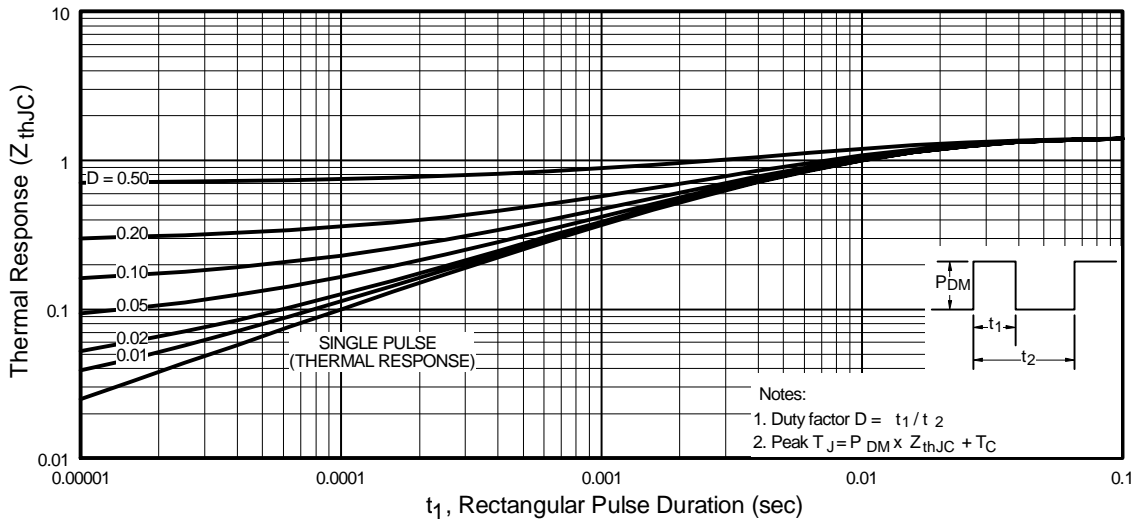

Fig 11. Maximum Effective Transient Thermal Impedance, Junction-to-Case
- ① Repetitive rating; pulse width limited by max. junction temperature. (See Fig. 11)
- ② $V_{DD} = -25V$, starting $T_J = 25^\circ\text{C}$, $L = 2.1\text{mH}$